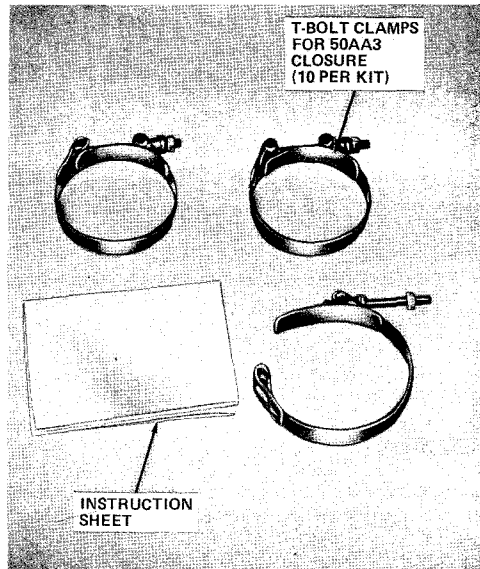

Fig. 12—Kit of Parts D-181227
- (4) Kit of Parts D-181227 (Fig. 12) consists of 10 T-bolt clamps for 50AA3 closure.